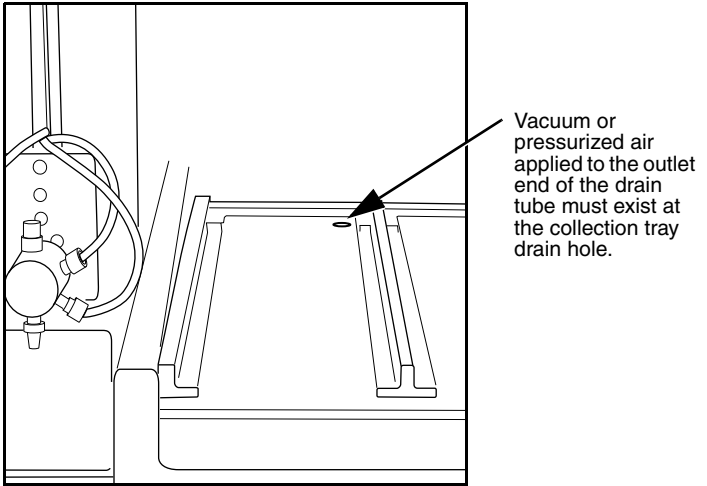

Figure 8-1 Collector tray drain hole
2. Test the collection tray drain and top shelf drain by connecting a vacuum or air supply source to the outlet end of the drain tubes. Then, verify the presence of such vacuum or air supply source on the drain hole (Figures 8-1 and 8-2).